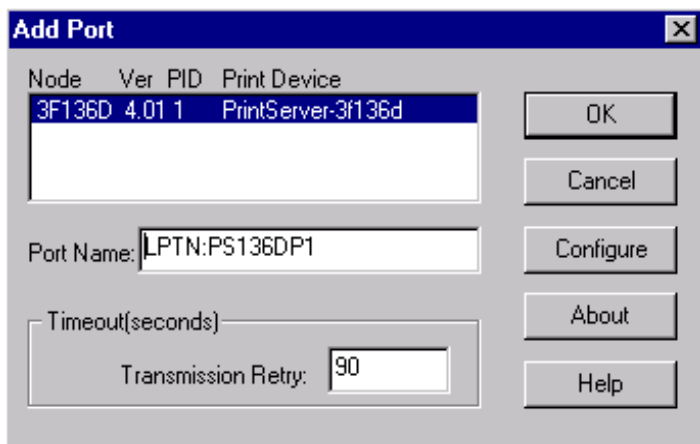

Figure 5-4
11. The Add Port box will then appear as shown in Figure 5-4, along with the print server's Node ID (*Last 6 characters, located on the back of the print server unit*). Select a print server from the list.